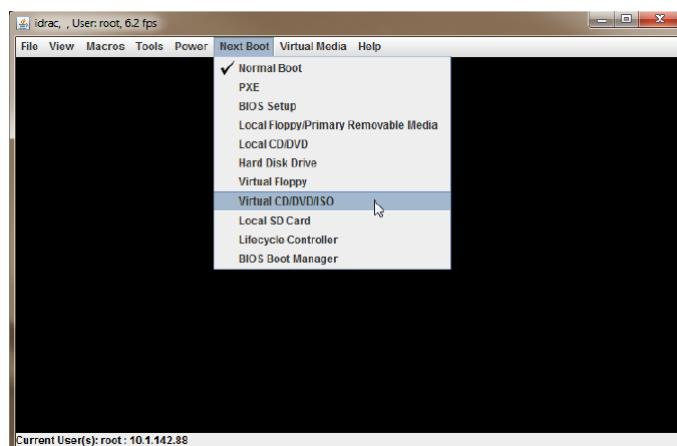

Figure B-11 Selecting the Image File or Drive as the Next Boot Drive
- 1 Once you have navigated to the drive or image file to be mapped, click the **Map Device** button (Figure B-11).